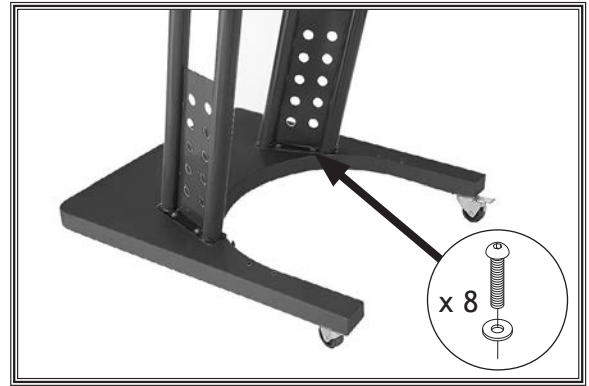

Figure 11. Support legs attached to base.
- Attach each support leg to base, as shown in **Figure 11**, and finger-tighten with (8) $\frac{5}{16}$ "-18 x $\frac{3}{4}$ " button head cap screws and (8) $\frac{5}{16}$ " fender washers.